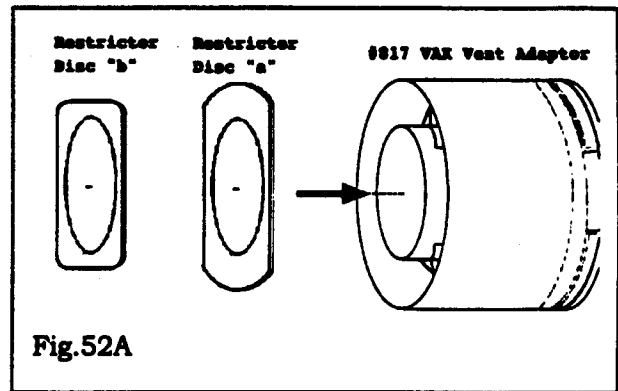

Fig.52A
10.4 Before fitting the vent adapter (817VAK) to the appliance, insert the metal restrictor disc having two curved edges (Fig.52A type "a") into the vent adapter. The disc is supplied with kit #819ARK.